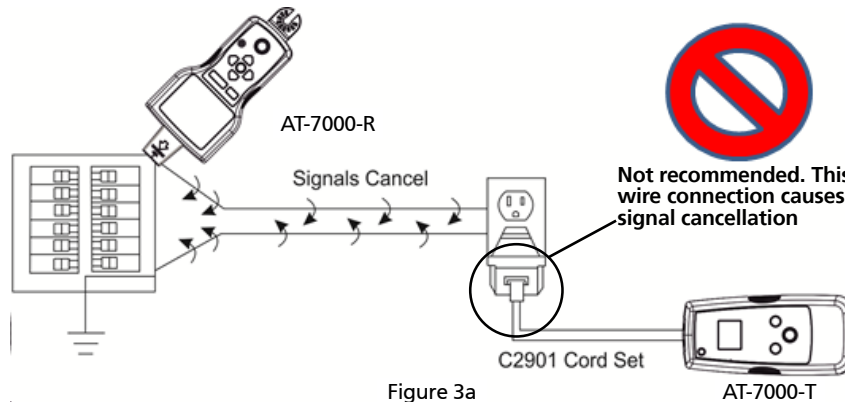

Figure 3a
2. . Connect red lead to energized hot wire (on the load side of the system). The signal will ONLY be transmitted between the outlet to which the transmitter is connected and the source of power (see Figure 3a).